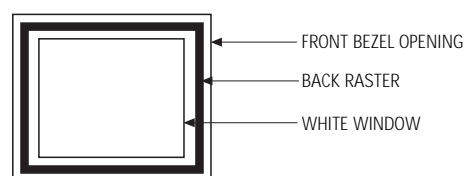

Figure 6-9. Full White Pattern
2. Very carefully break the glue seal between the 2-pole purity convergence magnets (PCM), the band and the spacer (see Figure 6-9).